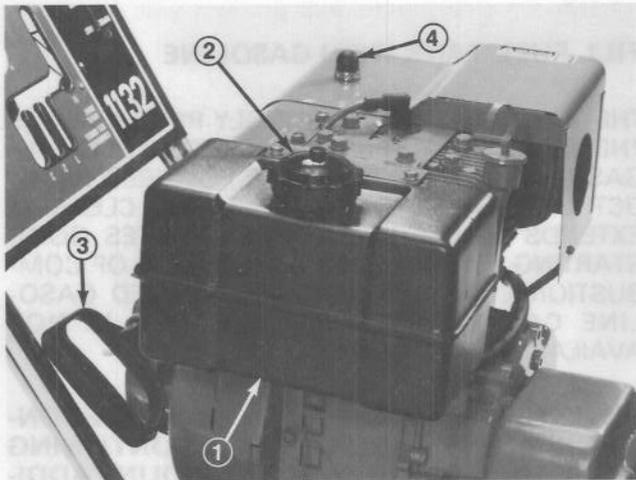

Figure 23
Fuel Shut-Off Valve (Fig. 23) — Close valve to stop fuel flow from fuel tank and open valve to allow fuel to flow to the carburetor.
Primer (Fig. 23) — Press primer to pump small amount of gasoline into engine for improved cold weather starting.
Recoil Starter (Fig. 23) — Pull recoil starter to start engine.
3. Open fuel shut-off valve (Fig. 23).
6. Depress primer (Fig. 23) five times.
7. Grasp recoil starter handle (Fig. 23) and pull it out slowly until positive engagement results; then pull vigorously to start the engine. If gasoline drips out of carburetor while trying to start engine, engine is choked too much. Therefore, move choke fully up and pull recoil starter several times to